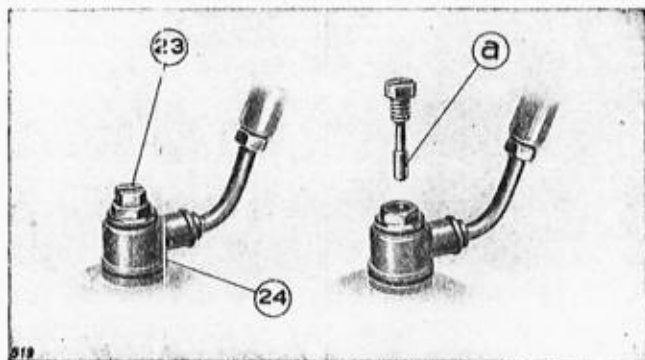

Fig. 11
Having fixed the tube of the carburettor and after having let in the mixture in the tank, it is necessary to expel the air from the pipe 24 (fig. 11) as indicated on page 20, paragraph 4).
The screw marked 23 (fig. 11) reduces the flow of the fuel into the carburettor and is designed to prevent petrol overflowing the constant level tank, as it may occur on bad roads. The petrol must flow along the end portion of the screw to get into the carburettor and is therefore slowed down.
coming through. (It may be that there is no more fuel in the tank or the cock is shut off, or that the filters or the tubes are obstructed, or the screw marked 23 (fig. 11) is dirty).
- 4) The screw marked 23 which regulates the flow of petrol (fig. 11) is dirty (this trouble may arise especially during the first days of usage of the en- **Shut off the petrol cock, remove the screw 23 and clean its end a); refit it to its place without tightening it. Then open the cock of the tank, so that the mixture flows out for a few moments, removing thereby possible air bubbles or impurities. Then shut the cock and tighten the screw.**